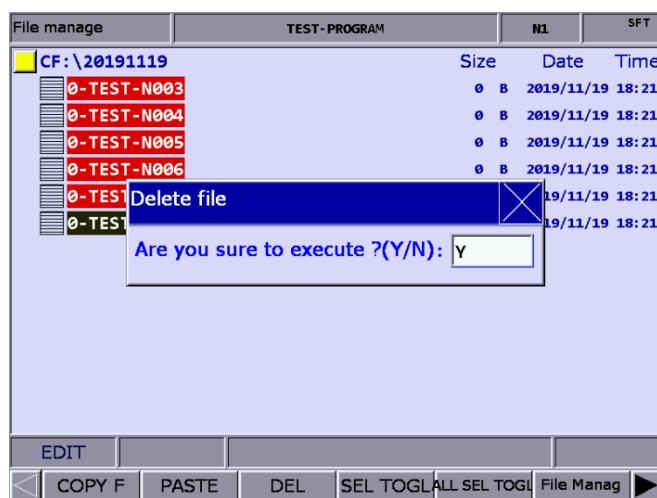

Figure 7.6.3
- (5) After selecting the files, press **DEL**, and a dialog box appears for you to confirm the execution (as shown in Figure 7.6.3). Enter "Y" and press **ENTER** to delete.